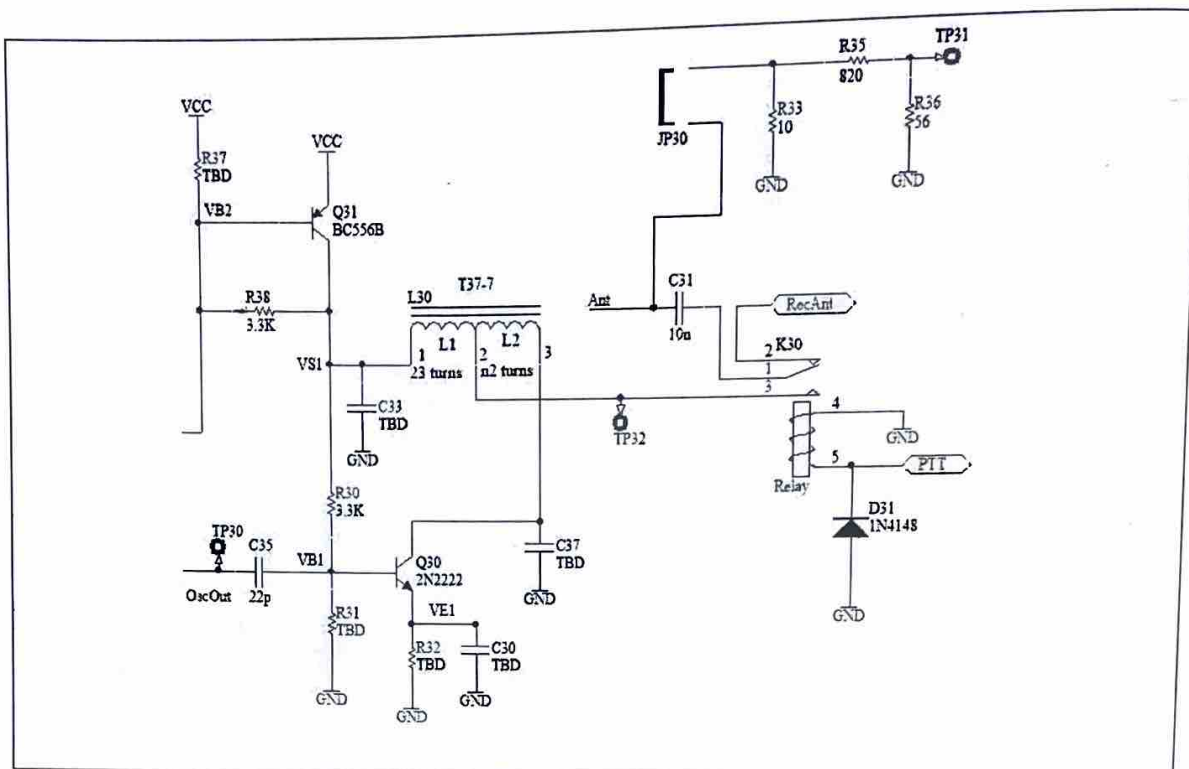

Figure 5: Schematic of transmitter amplifier.
- The tuned RF amplifier to be mounted is the transmitter (TX) amplifier operating at 27 MHz. This circuit is given in Fig. 5. L30 is a tapped inductance. The number of turns of L2 is determined in the preliminary work. It is supposed to transform the impedance of 10Ω to the optimum load resistance of the transistor. Cut 40 cm of 0.35 mm enameled wire to wind L1 and L2 on the T37-7 toroid. T37-7 is a core with an outer diameter of 0.37 inches or 9.4 mm (see p. 382). The windings should be single-layer without scrambles. Randomly wound coils do not perform well. The increased capacitance between the windings has a detrimental effect on the inductance performance. Count the turns of